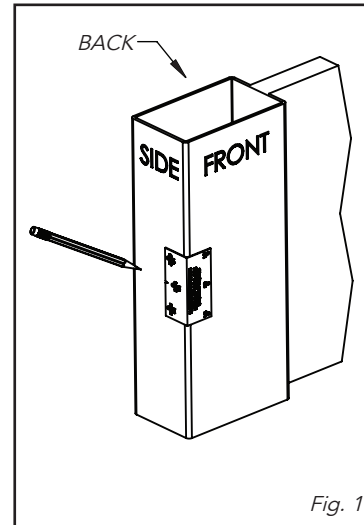
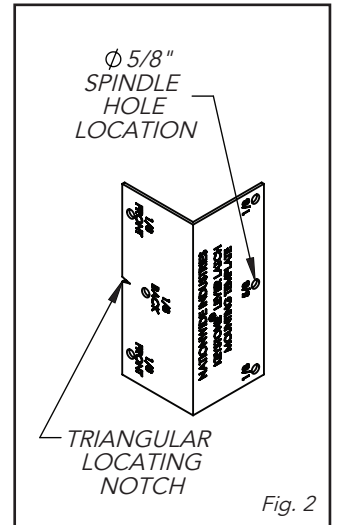

Fig. 1
Fig. 2
1. Mark the side of the gate frame with a horizontal line at the desired height of the latch handle (Fig. 1). Use of a level is recommended.
2. Place the template so the triangular locating notch (Fig. 2) is centered on the line and the "NATIONWIDE INDUSTRIES" label is on the front of the gate (Fig. 1).